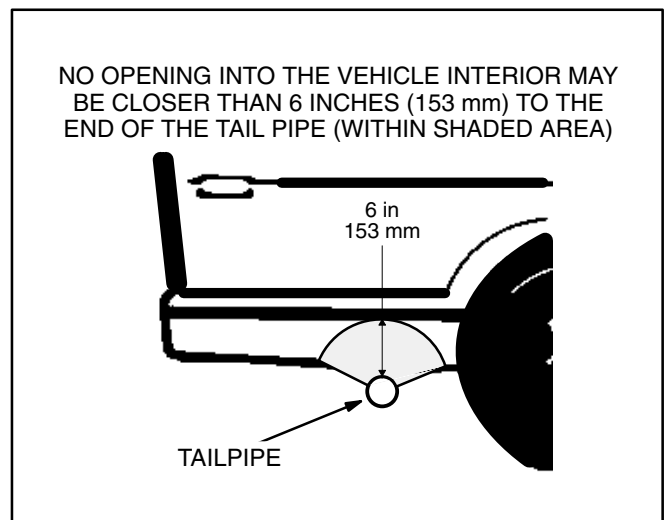
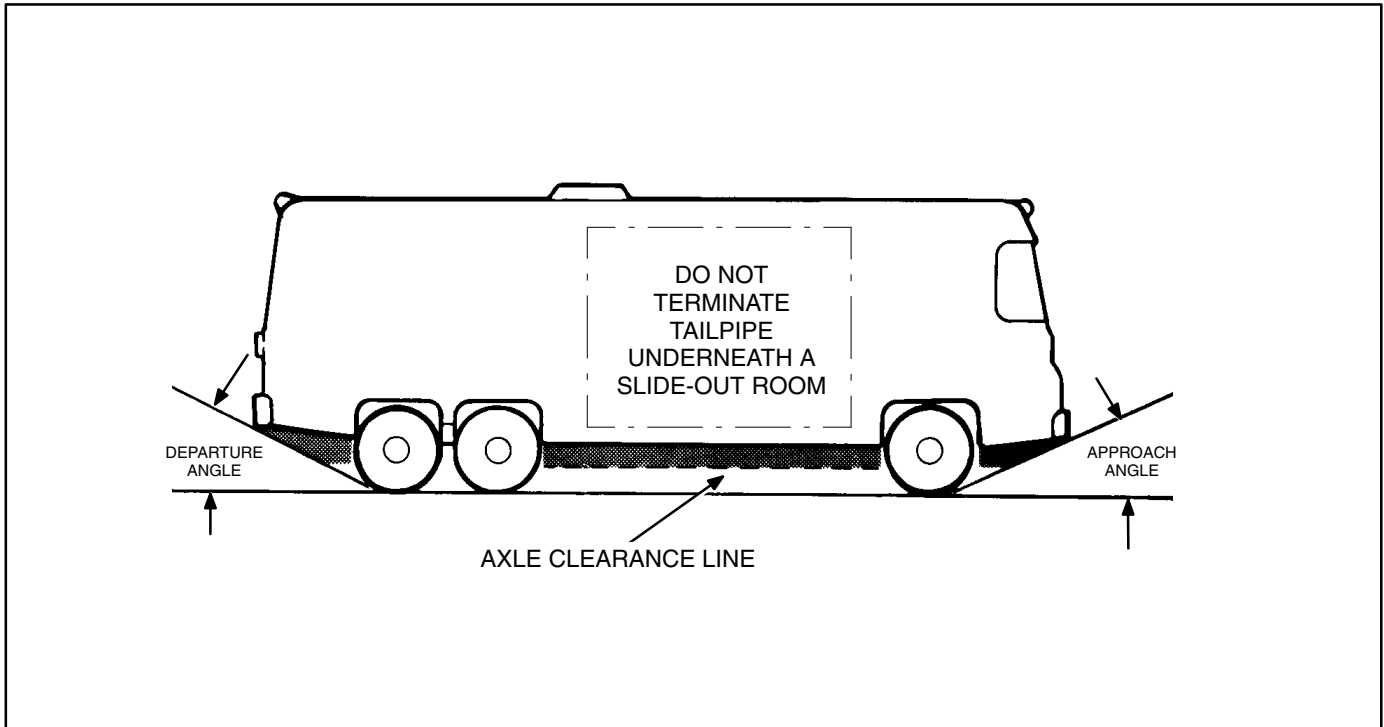

FIGURE 6. MINIMUM DISTANCES TO OPENINGS
FIGURE 7. APPROACH AND DEPARTURE ANGLES AND AXLE CLEARANCE LINE
⚠ WARNING ***EXHAUST GAS IS DEADLY! To keep exhaust gases from entering the vehicle do not terminate the exhaust tailpipe underneath the vehicle or closer than specified to openings into the vehicle (Figure 6) or route it such that it is likely to be damaged (Figure 7). Use approved materials and parts only.***
Note: Do not terminate the tailpipe underneath a slide-out room (Figure 7), unless the bottom of the slide-out, including skirts and moldings, is at least 3 feet above the end of the tailpipe.
9. Do not terminate the tailpipe such that it is closer than 6 inches (153 mm) to any opening into the vehicle interior (door, window, vent). See Figure 6.
10. Route the tailpipe such that it will not likely be struck when the vehicle is moving. At least keep it out of the approach and departure angles of the vehicle and above the axle clearance line (Figure 7).